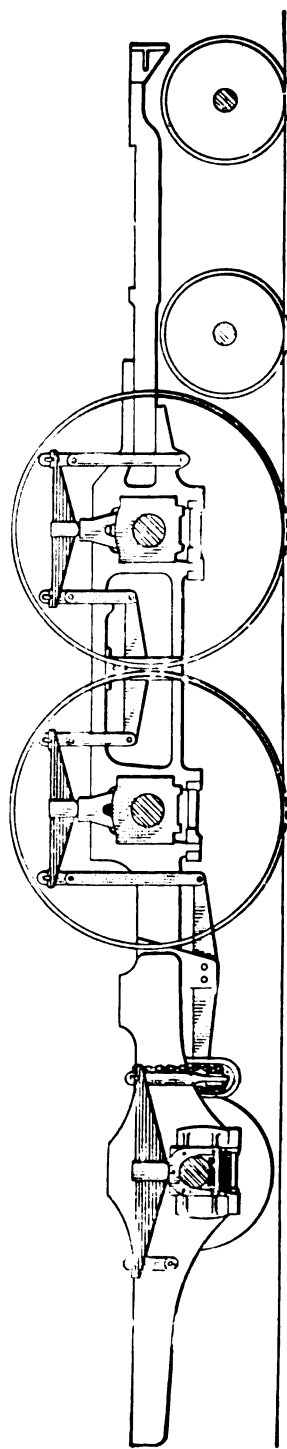

FIG. 43.
90. When the tire of the trailer wheel of a Northwestern type engine breaks, in order to get the engine to the shop it will be necessary to raise the wheel off the rail and carry it there after relieving it of the weight it carried. To do this proceed as follows: Run the wheel up on a wedge, remove the oil cellar and fit a block of hardwood in its place for the journal to run on, and put waste on each side of the journal and saturate it with oil; then block between the lower side of the box and the pedestal brace, as shown in Fig. 43, to hold the wheel in position. This blocking will carry the wheel clear of the rail, but as the thimble bolt will not carry the weight that would
thus be thrust upon it, it is necessary to relieve the wheel of the weight it carries. To do this put a strong chain around the end of the cross-equalizer, as shown in Fig. 43, and chain it up to the frame, or else block below that end of the cross-equalizer in the safety hanger. When the trailer wheel is carried off the rail, the overhanging weight back of the main driver throws considerable strain on the main spring, which may not be able to carry it. In order to protect this spring, block between the top of the main driving box and the frame. It may be better to carry the weight of the back end of the engine on the disabled side, as in the case of a similar accident to an Atlantic type engine, which was previously explained, in which case it will be unnecessary to block between the rear driving box and the frame to protect the driving spring. When a trailer wheel is blocked up in this manner, care must be taken when rounding curves to prevent the good trailer wheel from dropping off the track; if the curves are so short that there is danger of this wheel dropping off the rail, place a wedge between the tender and the engine, close to the drawbar on the disabled side, that is, on the same side as is the broken tire. This wedge should be put in place before entering the curve, so as to make a rigid connection between the tender and the engine, as it will have a tendency to crowd the flanged wheel against the rail. Care must be taken, also, not to use too large a block, as it will have a tendency to crowd the front end of the engine or the rear end of the tender off the track. A better method of preventing the trailer wheel dropping off the track is to chain the back end of the engine frame on the disabled side to the opposite side of the tender.